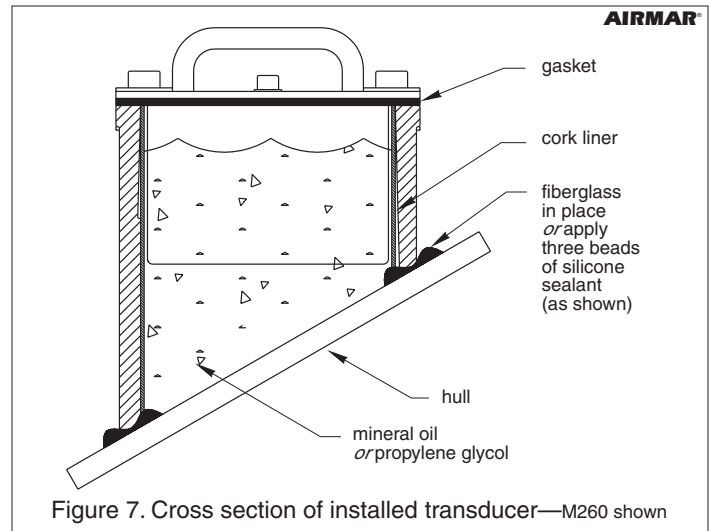

Figure 7. Cross section of installed transducer—M260 shown
Alternatively, apply a generous bead of silicone sealant (such as GE Silicone I or Silicone II), to the bottom edge of the tank following the manufacturer's instructions (see Figure 7). Press the tank firmly in place. Apply a second bead of sealant around the inside of the tank. Apply a third bead around the outside of the tank.
1. After the fiberglass resin or silicone sealant has cured around the tank, insert the cork liner (see Figure 7). Butt the edges along the center of the tallest side. Note, there may be a gap. *Be sure* the cork liner does not extend above the tank.